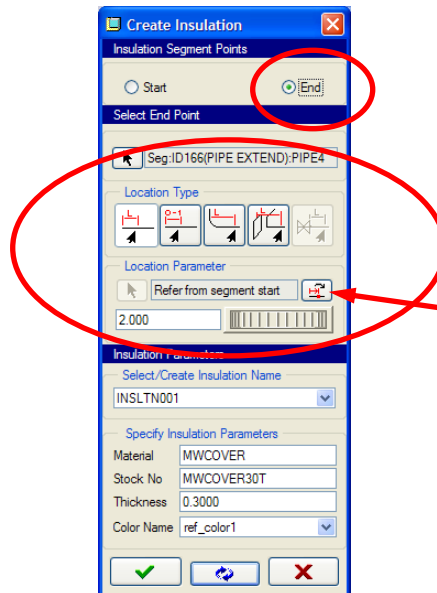

Figure 12
- Select the “**End**” button in the “**Insulation Segment Points**” option, set the “**Location Type**” and “**Location Parameter**” fields. (See Figure 12)